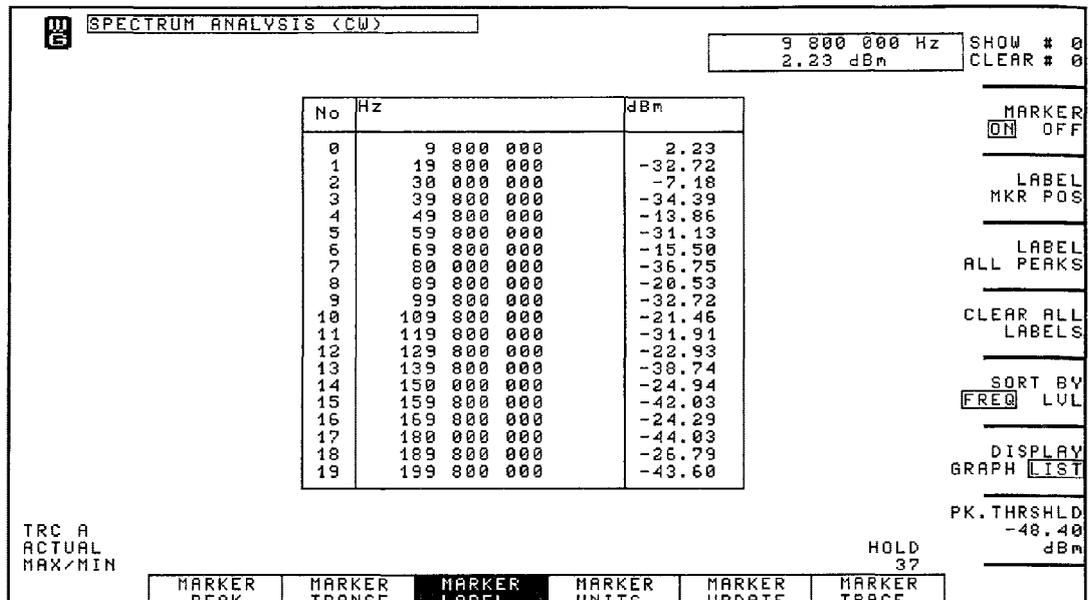

Fig. 4-11 Labels in list format (sorted in order of increasing frequency)
- Reinsert the DUT (see Fig. 4-11 on page 4-12). The frequency response of the DUT should now be displayed.